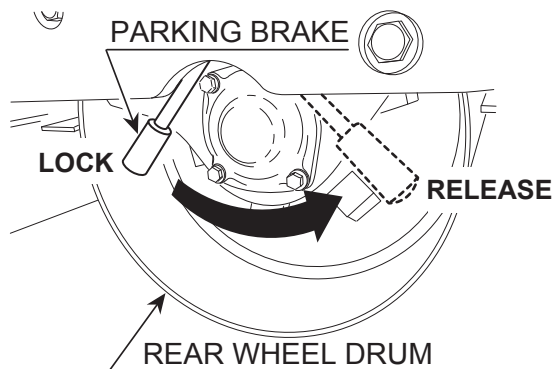

Figure 14. Parking Brake
1. Before starting to travel, make sure to release parking brake (Figure 14).